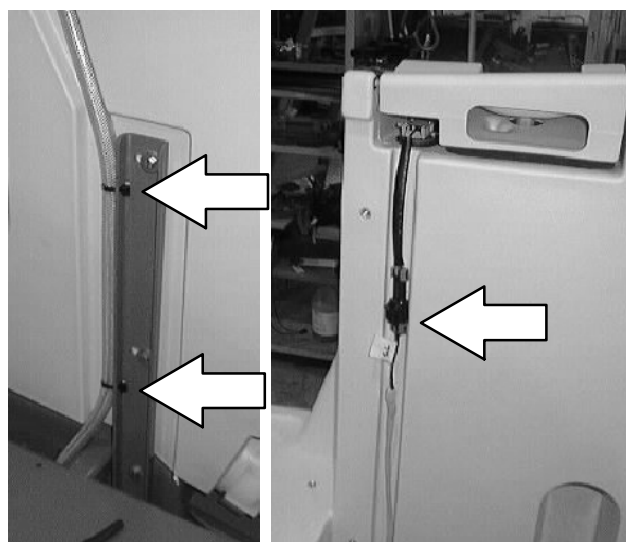

FIG. 10
14. Connect the solution tank pressure switch harness to the main harness. (Refer to FIG. 10)